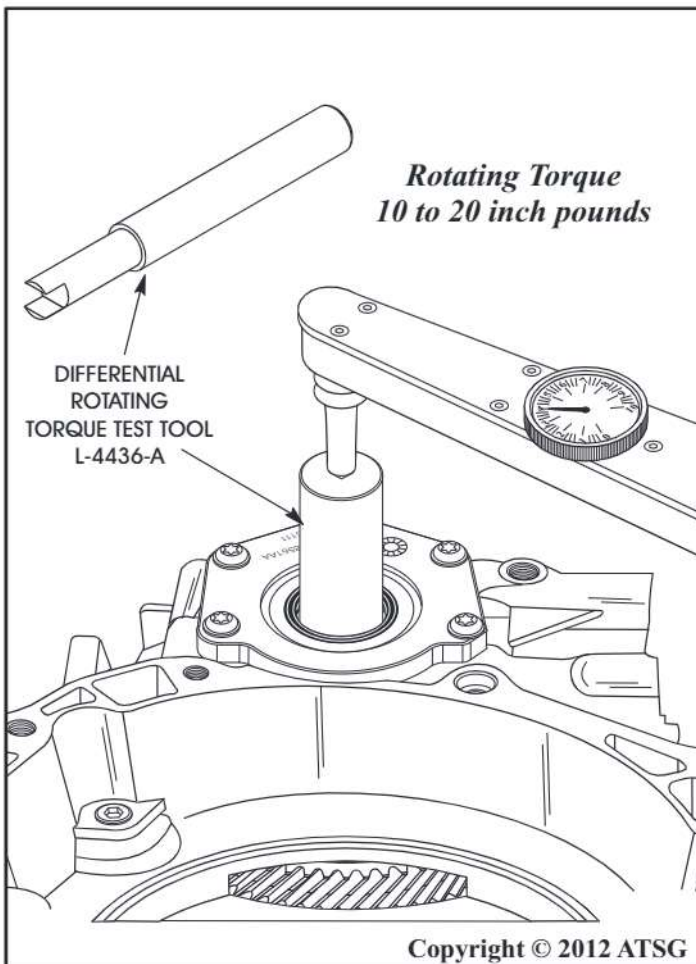

Figure 104
34. Check the rotating torque of differential assembly using tool L4436-A and an inch pound, dial type torque wrench, as shown in Figure 104.